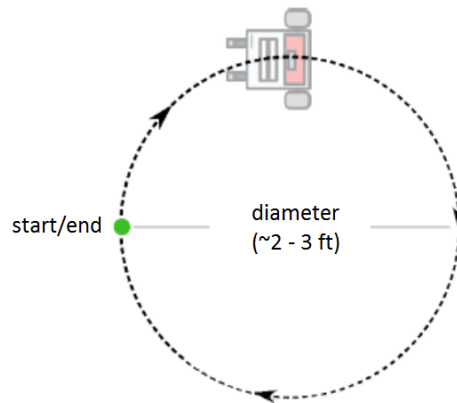

Figure 7: Circle Robot Motion
1. Write a “`moveCircle()`” function to move the robot in a circle with the diameter and direction as the input (see Figure 7). You should call the `moveCircle()` function from the `loop()` function.